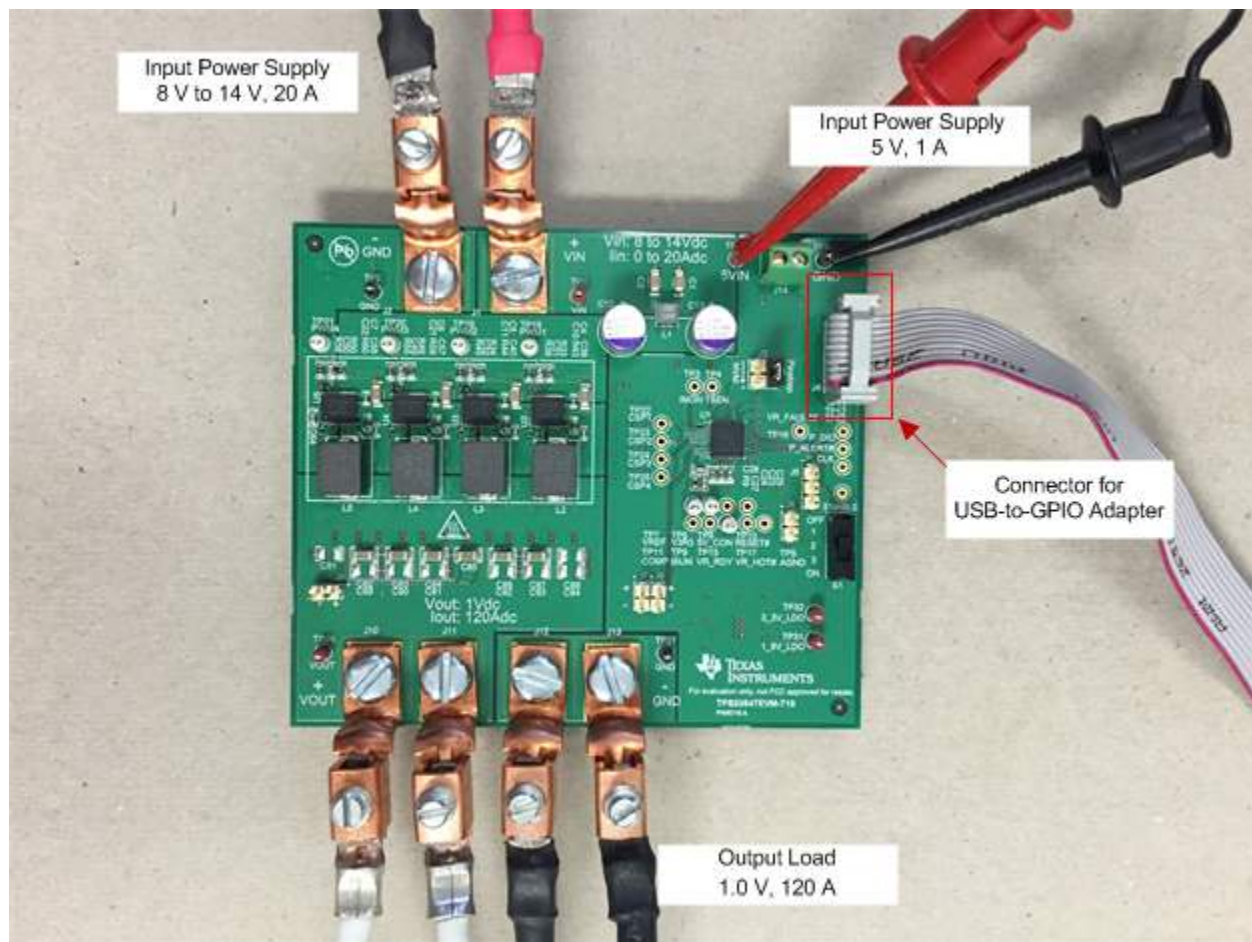
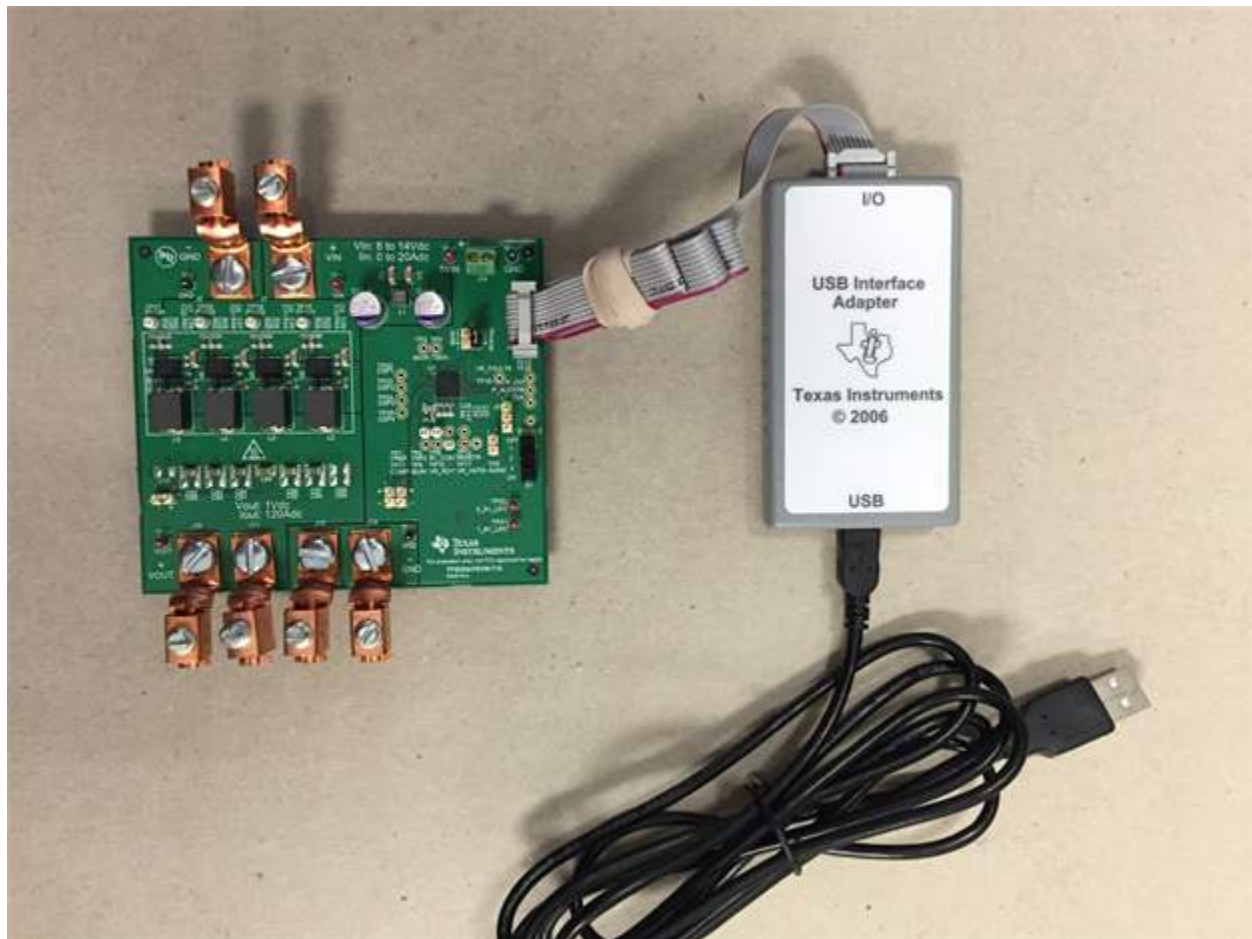

Figure 8. PWR710-EVM Recommended Test Setup
Figure 9. Texas Instruments USB-to-GPIO Adapter and Connections
Fusion Digital Power Designer is the graphic user interface (GUI) used to configure and monitor controller on the EVM. The software uses the PMBus protocol to communicate with the controller over serial bus by way of a TI USB adapter (see Figure 9).
Two DC input voltage sources are needed (V_{IN} and $5V_{IN}$). Use an input voltage source V_{IN} between 0 V and 14 V variable DC source capable of supplying 20 Adc. Use another input voltage source $5V_{IN}$ a 5-V DC source capable of supplying 1Adc. Connect V_{IN} to J1, J2 and connect $5V_{IN}$ to J14 as shown in Figure 8.
It is recommended to use two separate multimeters as shown in Figure 8. One meter is to measure V_{IN} , the other one is to measure V_{OUT} .
The electronic load is recommended for the test setup as shown in Figure 8. The load should be capable of 120 A.
A communications adapter is required between the EVM and the host computer. This EVM is designed to use the Texas Instruments USB-to-GPIO adapter, see Figure 9. To purchase this adapter visit the TI usb-to-gpio tool page.
Figure 8 shows the recommended test setup, which includes VIN and 5VIN input voltage sources, output load, and USB-to-GPIO adapter.
Figure 9 shows the USB interface adapter and cable.
2. Apply the input power source VIN to the EVM. Refer to Figure 8 and Figure 9 for connections and test setup.
1. Set up EVM as described in Figure 8.